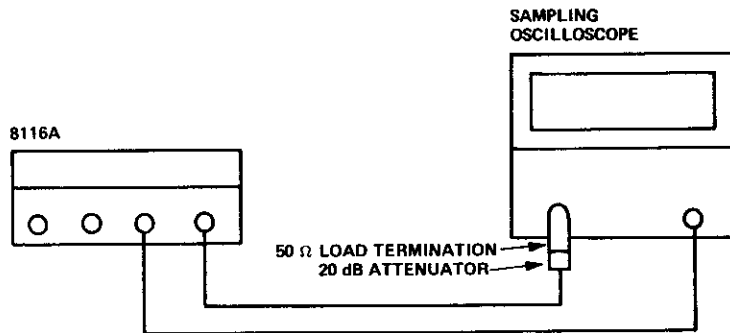

Figure 4-6. Test Setup for Pulse Characteristics
1. Connect the equipment as shown in Figure 4-6.